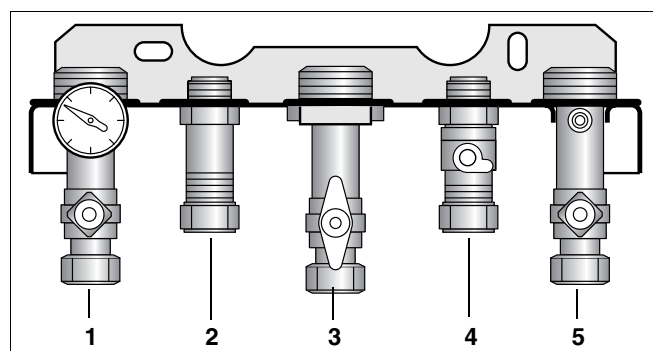

fig. 4 Pipe connections
- Connect pipes as shown in fig. 4. Ensure that all pipework is routed so as to minimise any strain on the boiler fittings.
- Connect pipes free of strain (fig. 4).